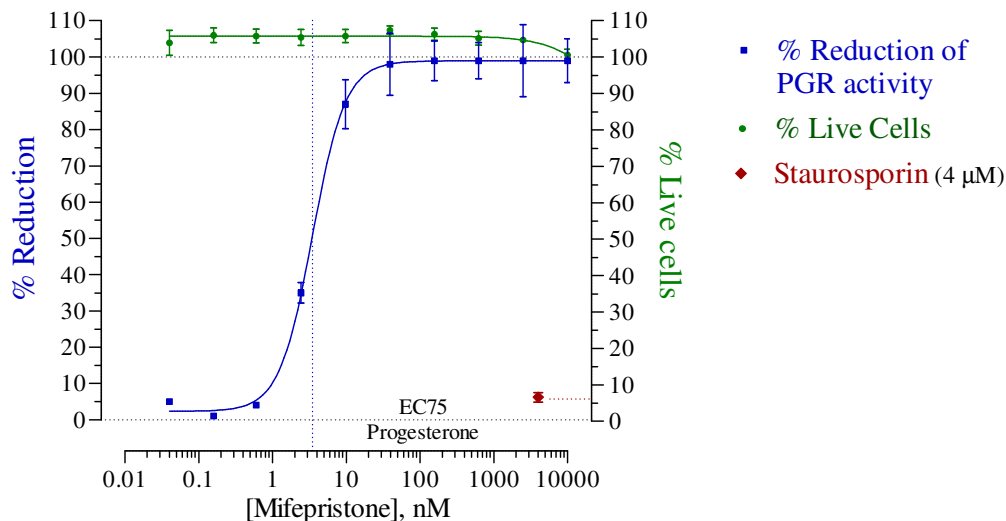

Figure 3. Validation of PGR Assay antagonist dose-response.
- *Optional:* antagonist reference compound (*e.g.*, Fig. 3)